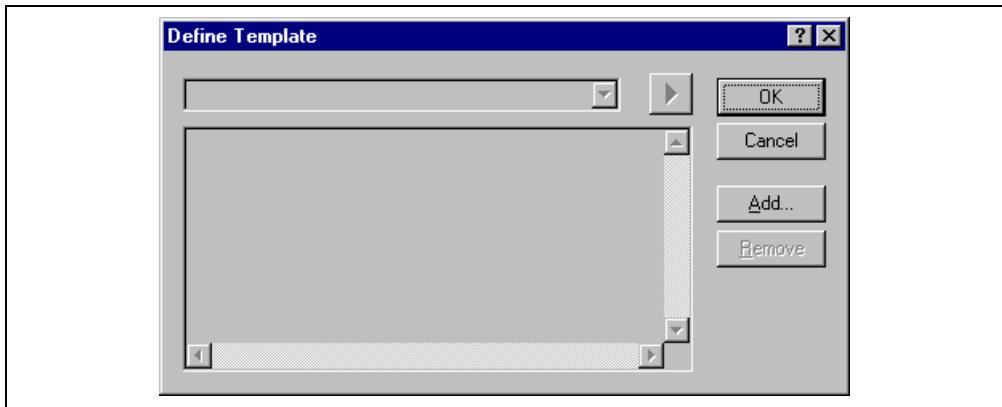

Figure 4.14: Define Template Dialog
1. Select [**Edit->Templates->Define Templates...**], select [**Templates->Define Templates...**] from the local menu, press **CTRL+T** or click on the define template toolbar button (). The dialog shown in figure 4.14 will be displayed.
- Select [Edit->Templates->Define Templates...], select [Templates->Define Templates...] from the local menu, press **CTRL+T** or click on the define template toolbar button (). The dialog shown in figure 4.14 will be displayed.